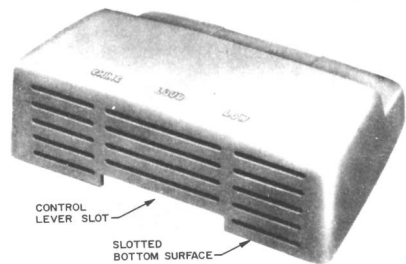

FIGURE 2. 125A Cover
- 1.02 The plastic cover (Fig. 2) is not supplied with the F1A ringer. Order separately as follows: